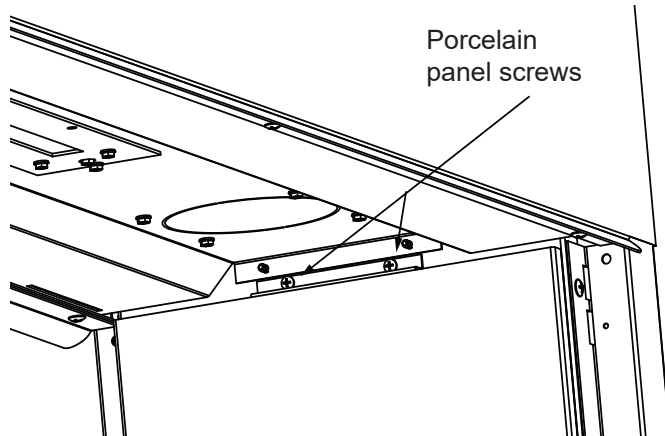

Figure 37. Porcelain Panel Screw Location
1. Remove two (2) air deflection glass panels.
3. Remove two (2) screws holding top of panel in place. See Figure 37